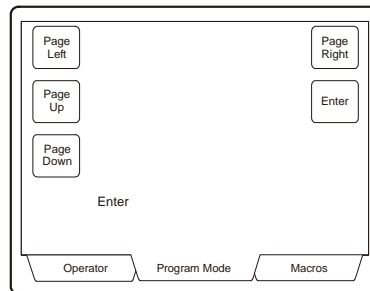

Figure 4.7: Matrix Menu
2. Press the MATRIX MENUS soft key. This will open the matrix menu on the ADCC1100 keyboard's display (figure 4.7), and the main menu for the switching matrix system on the currently selected monitor.